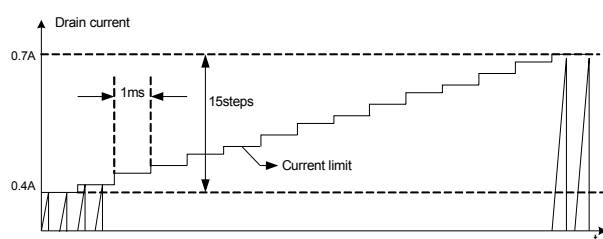

Figure 8. Soft Start Function
5. Soft Start : The FPS has an internal soft start circuit that slowly increases the feedback voltage together with the Sense FET current after it starts up. The typical soft start time is 15msec, as shown in Figure 8, where progressive increments of the Sense FET current are allowed during the start-up phase. The pulse width to the power switching device is progressively increased to establish the correct working conditions for transformers, inductors, and capacitors. The voltage on the output capacitors is progressively increased with the intention of smoothly establishing the required output voltage. It also helps to prevent transformer saturation and reduce the stress on the secondary diode.